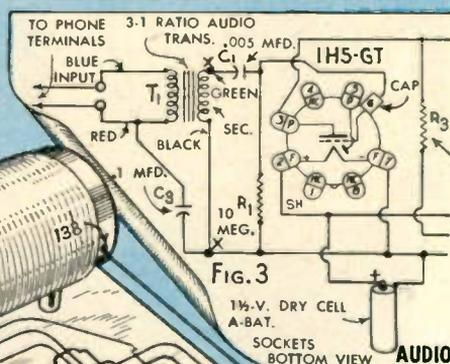

Fig. 3
All electronic tubes are basically the same; the General Electric "thyatron" is a commonly used type. Fig. 1 shows its heater that heats the cathode which gives off electrons, as illustrated in Fig. 2; the dot indicates a gas-filled tube. The anode (plate) is the other end of the conductor in the tube; when a positive voltage is applied to it, the plate attracts billions of electrons that are "boiled" off the cathode as in Fig. 3, and current then flows through the tube. Fig. 4, negatively charged, the plate cannot attract electrons. Fig. 5 symbols illustrate what the grid (control electrode) does: (1) when more than a certain critical value of negative voltage is applied to the grid, electrons cannot reach the plate; (2) when negative voltage is reduced, electrons flow to the plate; (3) flow stops when plate voltage becomes negative; then cycle repeats. Fig. 6 illustrates ionization: (1) an electron is knocked out of a neutral gas molecule; (2) a molecule having lost an electron is positive; (3) these positive molecules are called ions; (4) when enough ions form they neutralize the negative field, thus permitting more electrons to reach the plate for greater current-carrying capacity.
matchstick under the turns which are to be tapped; this aids in the removal of the insulation where the leads are to be soldered for switch points at 10, 21 and 50 turns. Later, if you wish to discard the headphones and use a small loudspeaker you can do so by adding the 2-tube audio amplifier shown in photos C and D. The schematic circuit diagram is given in Fig. 3. All construction details for this amplifier unit are shown in the pictorial wiring diagram in Fig. 4. When connecting the units together, the grounded phone terminal on the crystal set connects to the ground clip on the audio amplifier; the insulated phone terminal on the crystal set is then connected to the input-terminal clip on the amplifier. The antenna and external ground leads on the crystal set remain the same. To turn the amplifier "on" and "off" either disconnect the positive (+) A-battery lead, or insert a large s.p.s.t. toggle switch in this lead. The switch was omitted here to keep cost down to minimum. Two 45-volt B-batteries and a large 1½-volt dry cell A-battery provide power. No volume control is used. See page 155 for detailed material list.
Various views of the first set are shown in photos A, B, C and D; the base and panel details are given in Fig. 1. This set is built up in a semibreadboard layout on a chassis made of pressed wood, with two wooden strips which support the base. Note that the chassis is made in two pieces which permits the tube socket to be mounted without drilling large holes. The schematic circuit diagram appears in Fig. 2, and the simplified wiring diagram in Fig. 3.
The coils are close-wound on the cardboard tube with the number of turns indicated. Punch holes as shown in Fig. 3 so that the start and finish ends of each coil may be threaded in and out to anchor the winding, leaving sufficient wire at each end for the circuit connections. The finished coil is mounted with ordinary china cement. An octal-type tube socket having a metal mounting plate is mounted across the space between the hard-pressed-wood strips. Care must be taken that all tube